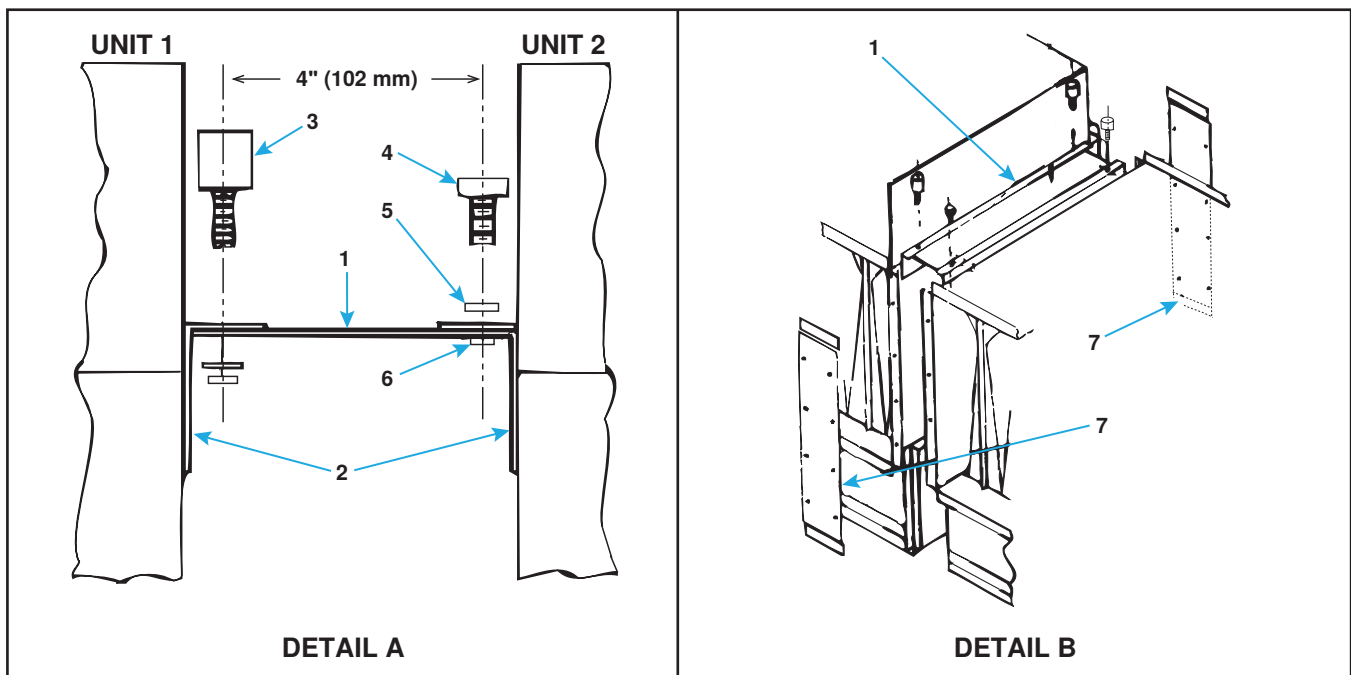
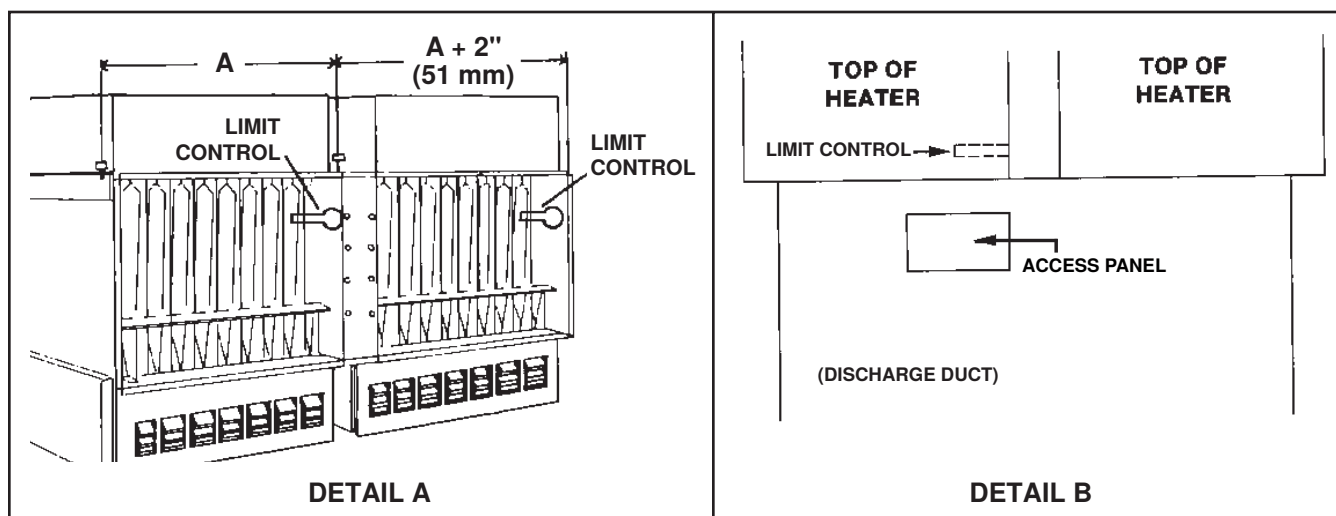

Figure 7. Coupling Kit Installation
Figure 8. Front and Top Views of Coupled Furnaces
Coupling of furnaces is done using optional coupling kits, which are listed in Table 7. Couple two, three, four, or five furnaces together as follows. Item numbers in parentheses refer to Figure 7 and Table 8.
2. Position second furnace next to first furnace so that tie plate (1) is below hanger angle (2). Secure tie plate to hanger angle using bolts (4), lockwashers (5), and nuts (6).
3. Position filler plates (7) as shown in Figure 7, DETAIL B. Using filler plate as template, drill 1/8-inch diameter holes and secure filler plates using sheet metal screws (8). Offset of filler plate allows alignment with unit duct flanges (see Figure 8, DETAIL A).
- Coupled units require access panels (see Figure 8, DETAIL B) in the top or bottom of the outlet ductwork for limit control service and observation of coupled units (refer to Duct Connections section).
- Refer to Figure 8, DETAIL B and Table 9 for coupled furnace front view dimensions.
*See Figure 8, DETAIL A.